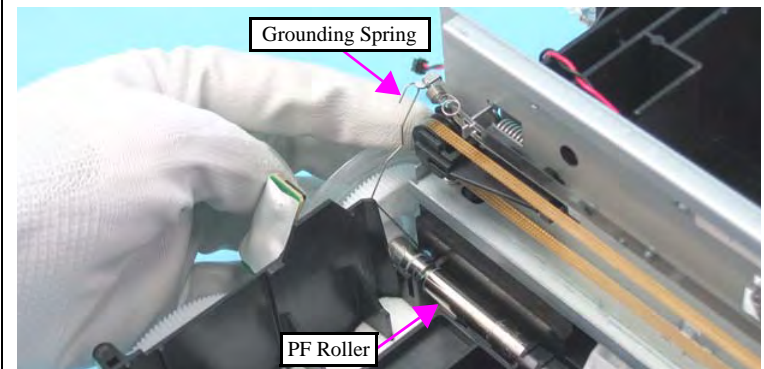
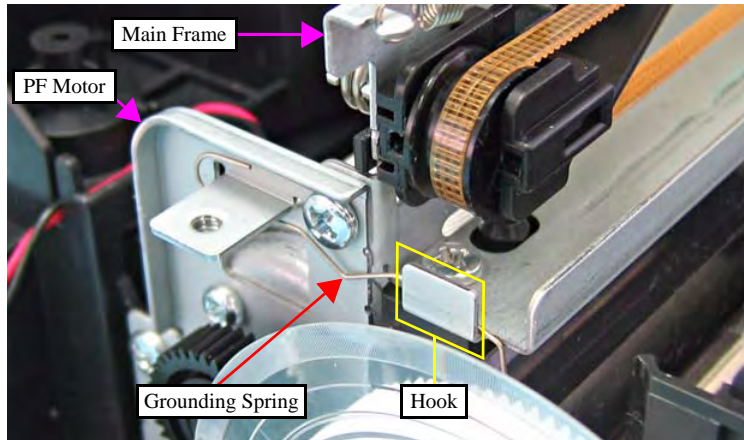

Figure 4-64. Installing the Grounding Spring (1)
Figure 4-65. Installing the Grounding Spring (2)
- Be sure to install the Grounding Spring referring to Figure 4-64 and Figure 4-65.